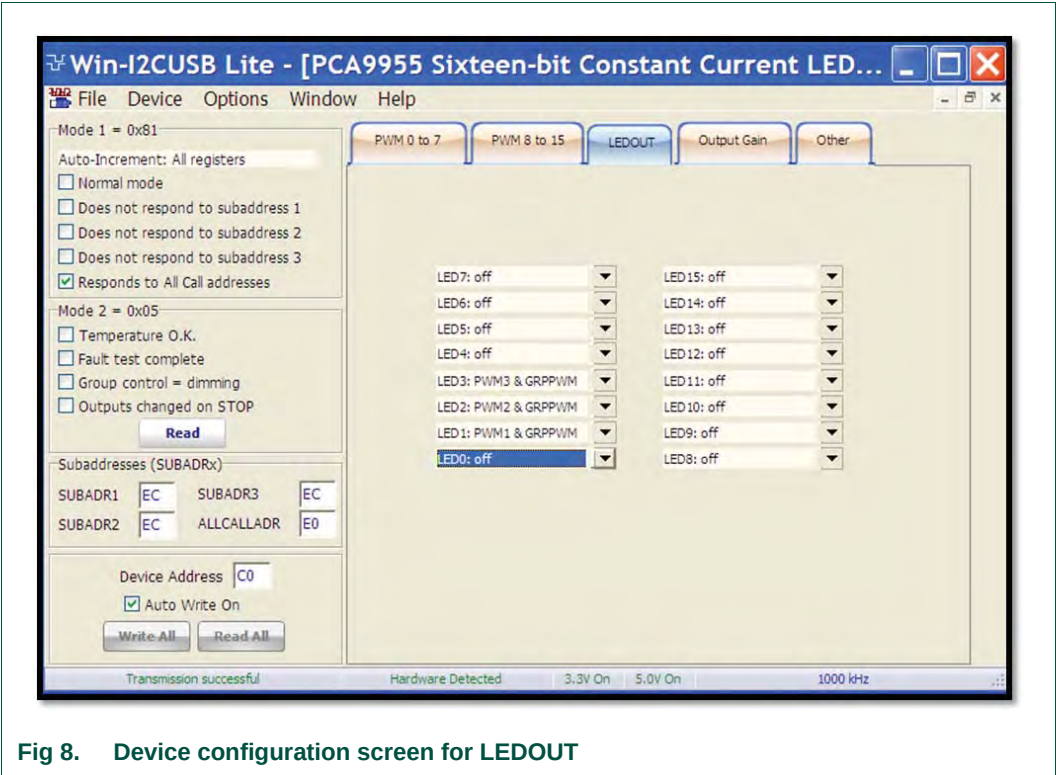

Fig 8. Device configuration screen for LEDOUT
- 'LEDOUT' LED driver output state for LED0 to LED15 as shown in Figure 8.
- 4. Click the ‘LEDOUT’ configuration screen and select ‘PWMn & GRPPWM’ for LED[1:3] (see Figure 8).